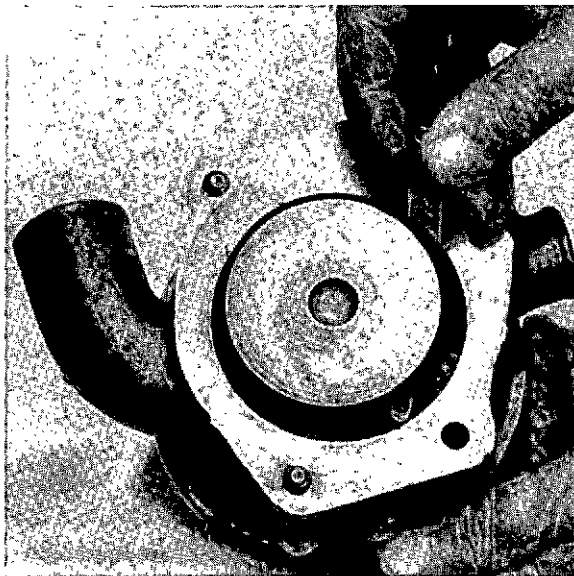

Fig. N5
1. With the shorter end of the water pump shaft to the front, press the shaft and bearing assembly (2) into rear of water pump (1) until the end of the bearing housing aligns with the front of the water pump body.
2. Fit thrower where separate, (4) and seal (5) with carbon face to rear of pump and flange against the inside face of water pump body.
3. Fit ceramic counterface (6) to shaft with ceramic insert towards seal.
4. With a support on the front end of the water pump shaft, press impeller (7), with blades inwards, on rear of shaft until there is a clearance of 0,25 mm (0,010 in) to 0,51 mm (0,020 in) between blades of impeller and pump body (see fig. N5).